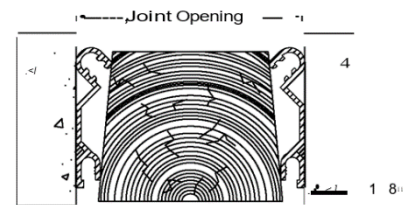

Fig. 1
3. Mount extrusions to wall surface and install temporary wood blocking (Fig. 1) to secure extrusions to wall while adhesive cures and for field drilling for standard installation.